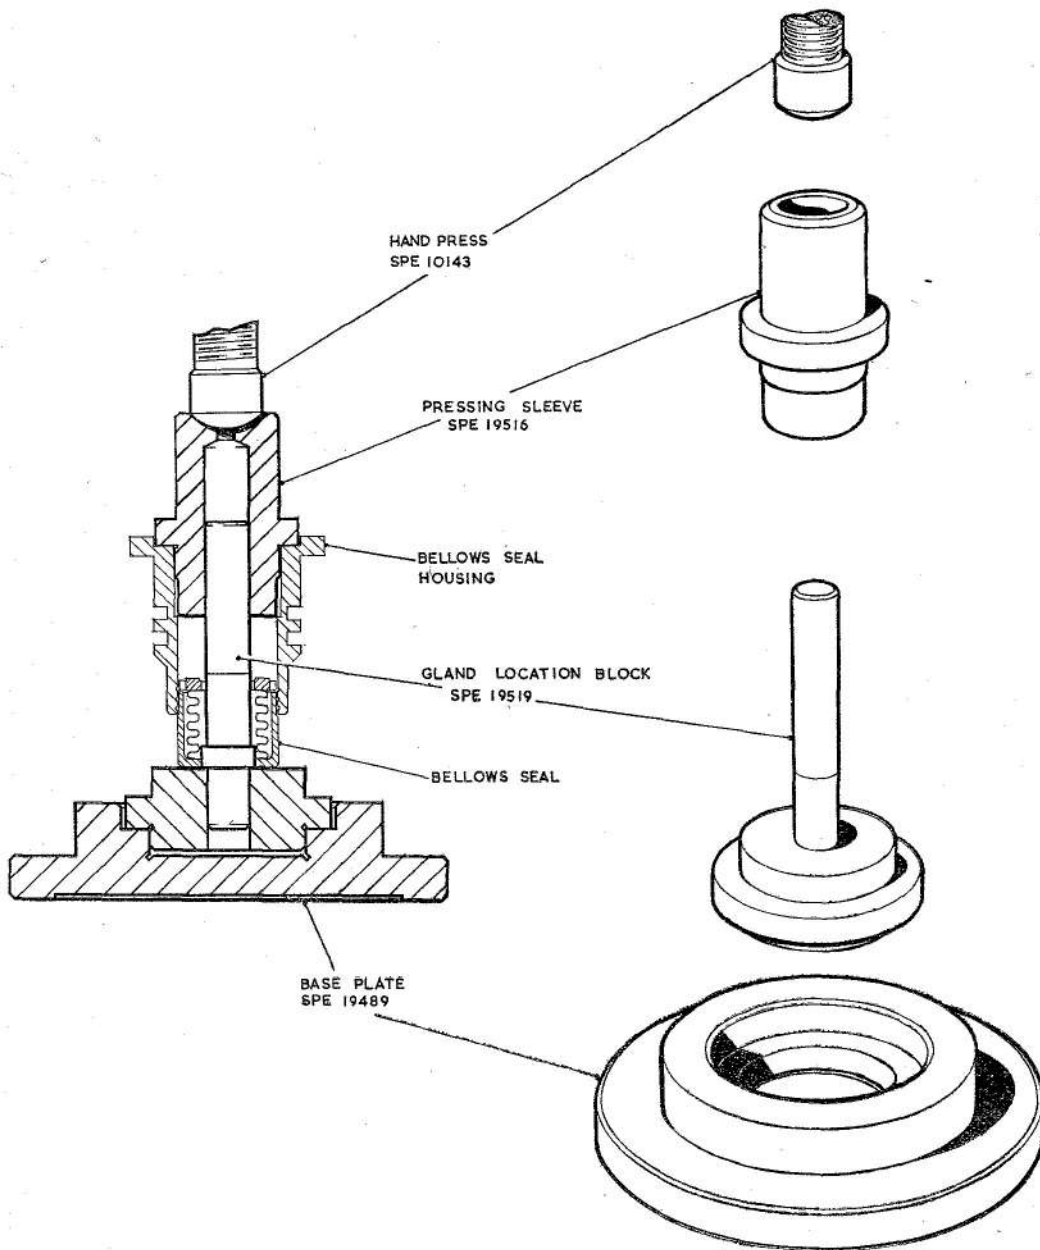

Fig. 37. Assembling the bellows gland to its housing
the top $\frac{1}{8}$ -inch of the bore of the housing with Hermeticoll jointing compound so that the grooves are filled. Using the tools illustrated in Fig. 37, press the re-lapped or a new bellows gland (201) into the housing so that the top face of the gland is flush with the top surface of the housing.